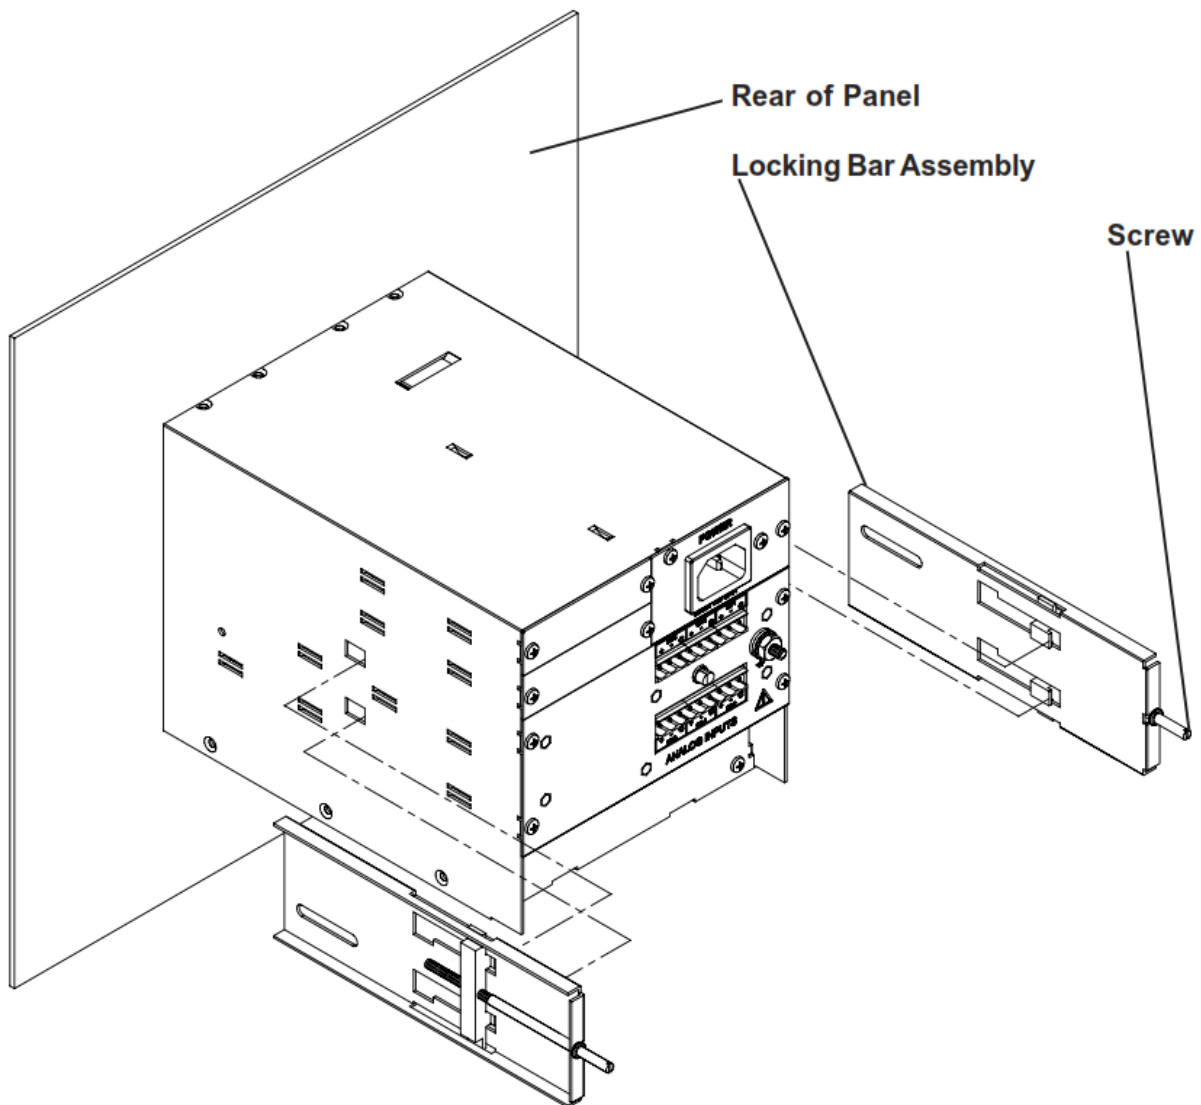

Figure 2-3 Rear View Panel Installation
- 2.2.1.5** With the Recorder held firmly in place against the panel, install one of the locking bar assemblies by sliding the locking bar notch into the slot on the side of the Recorder enclosure as shown in Figure 2-3.